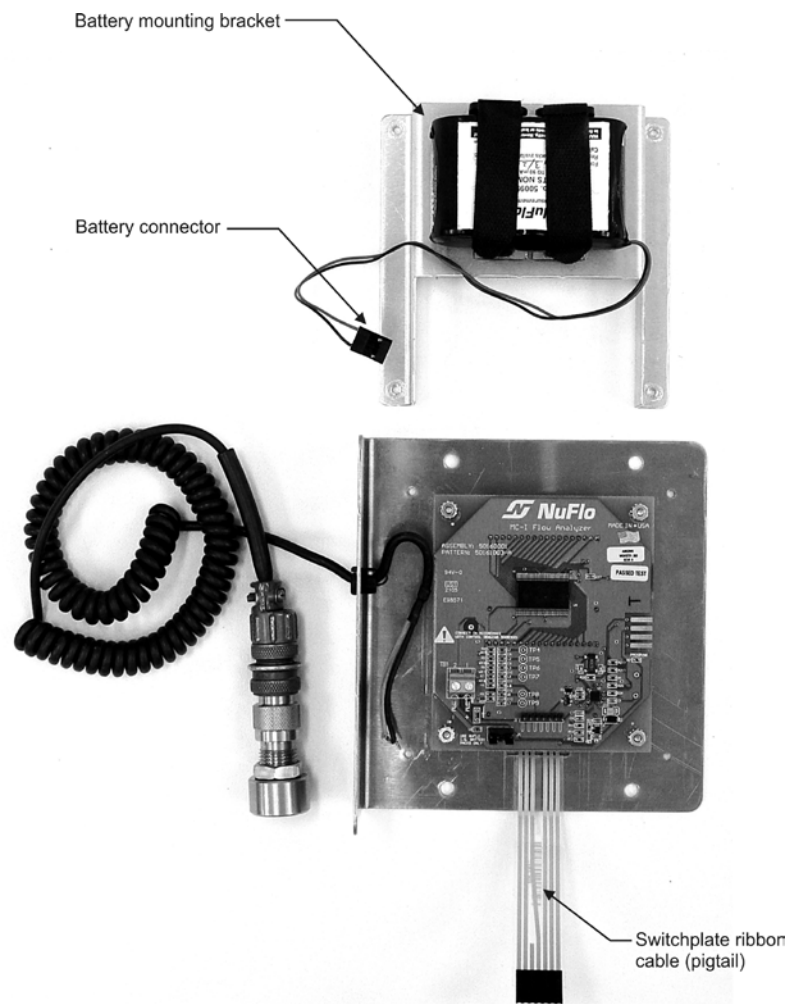

Figure 4—Circuit assembly replacement
5. Remove the four Philips screws holding the battery mounting bracket in place. Remove the battery mounting bracket (Figure 4).